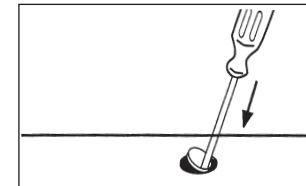

Fig.2
2. Insert a screwdriver into the knockout slot and bend the knockout back and forth. (Fig.2)